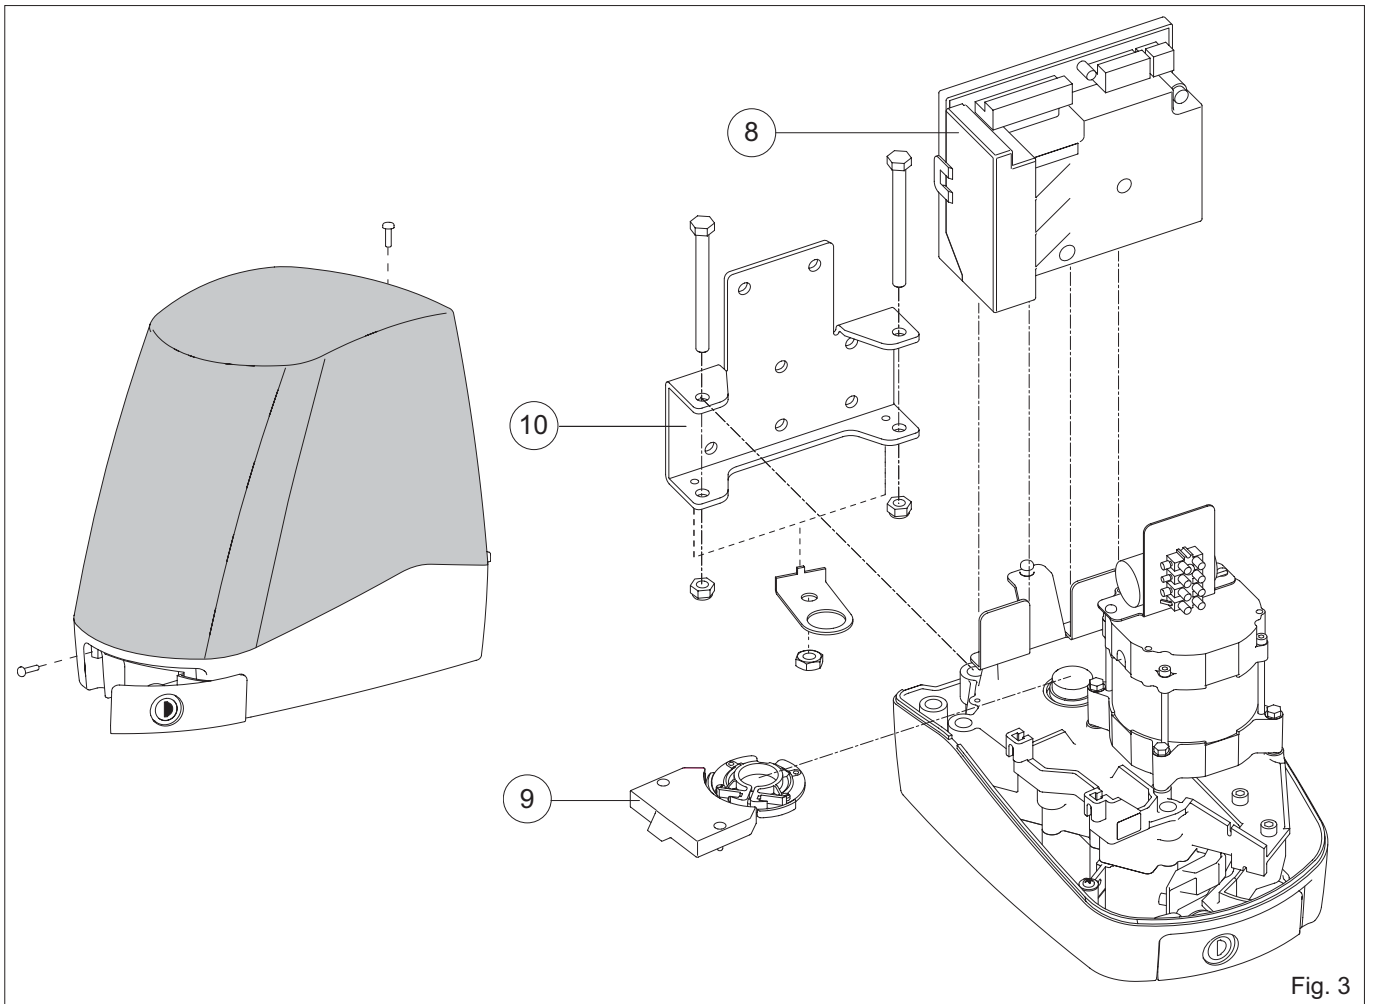

Fig. 3
### 2.2 Gearmotor references (fig. 3)
- Remove the lid and fit the gearmotor to the fastening plate [15] as indicated in fig. 3.